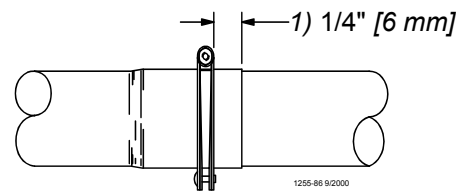

Figure 29. Clamp Installation
Continue down the entire length of the feeder line so that every joint is secured with a standard Clamp or Clamp/Anti-Roost Bracket. **Figure 29.** shows the proper clamp location on the tube joint. *Do not tighten the clamp at this time.*
- make sure the clamps are located, as shown in **Figure 29.**